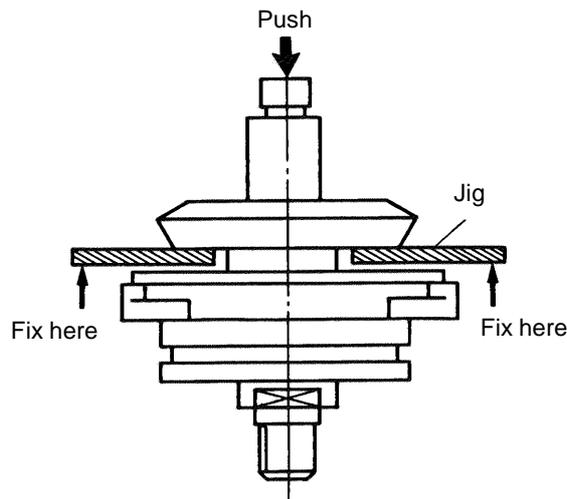

Fig. 3
After removing the Packing Gland (28) together with the Spindle (26) and other parts, support the Gear (16) using jigs as illustrated in Fig. 3, and press downward on the end of the Spindle (26) to take off the Gear (16).